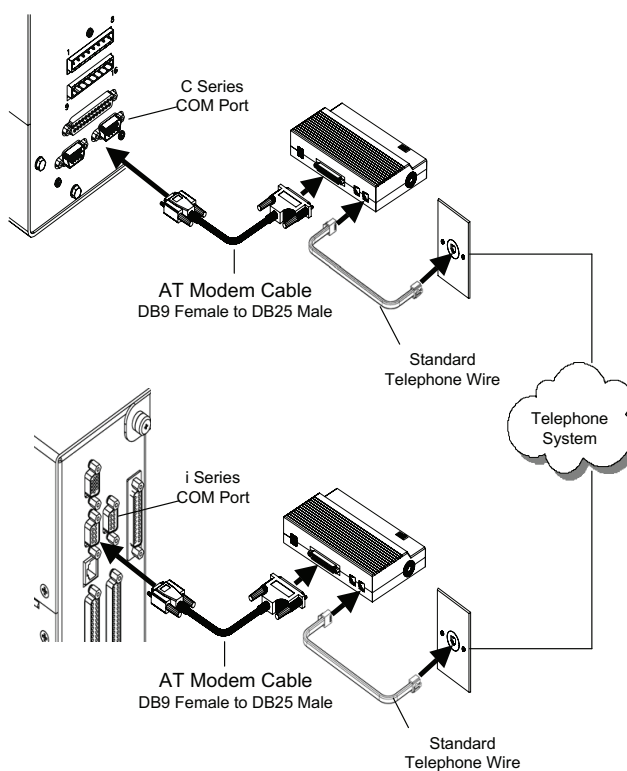
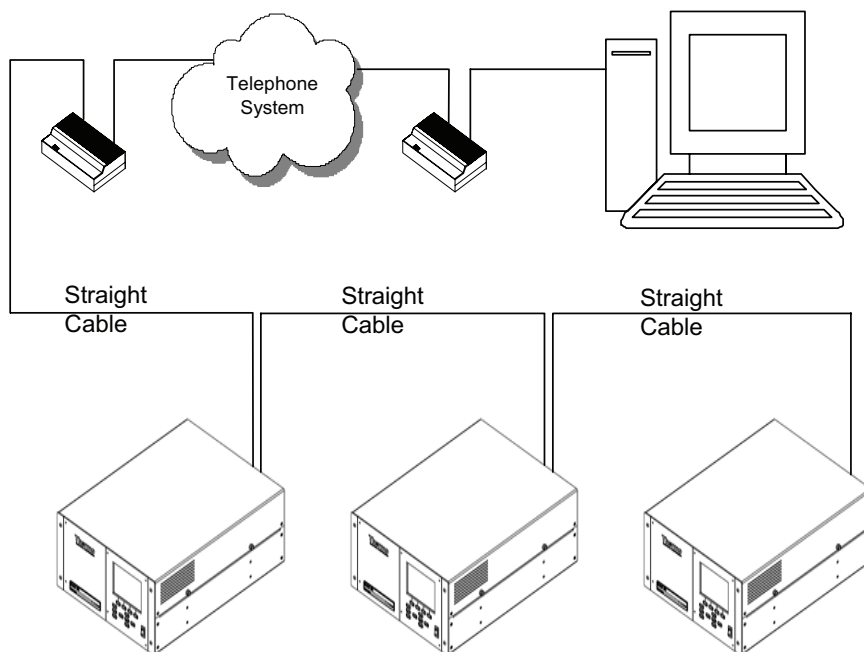

Figure 2-6. Programmed Modem Connected to Instrument
Figure 2-7. Multiple Instruments Connected via Modem
5. Disconnect the modem from the computer and connect it to the instrument and phone line as shown in Figure 2-6.
4. Disconnect the modem from the computer and connect it to the instrument and phone line as shown in Figure 2-6.
Once the modem is programmed to auto-answer, connect it to the computer's COM port as shown in Figure 2-6. Several instruments can be connected to one computer, as shown in Figure 2-7.